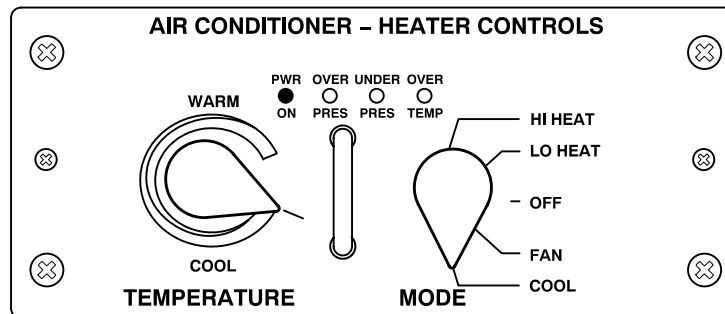

Figure 6. POWER ON INDICATOR LAMP
1. Check to see that the POWER ON INDICATOR LAMP illuminates when power is connected to the unit and an operation MODE is selected. See Figure 6.